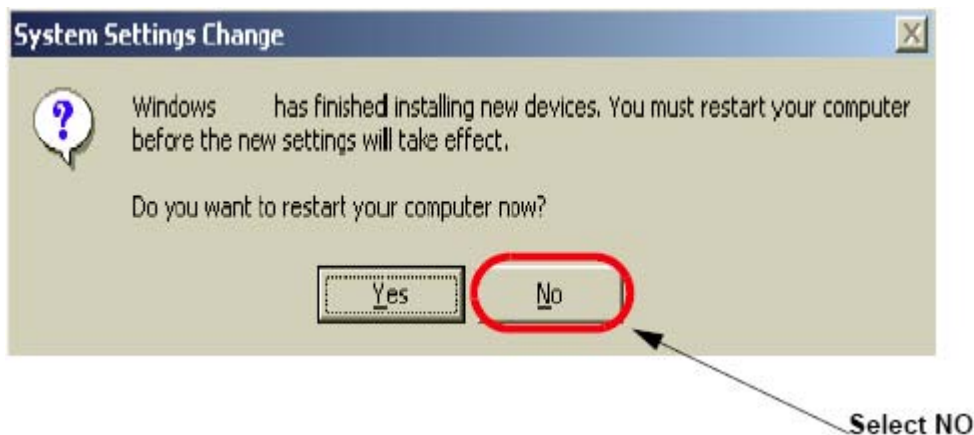

Figure 8-113 Windows Restart Screen
8.) Wait till you get a windows reboot message. This may take upto 3 minutes. On this message, Click on **NO** as shown in the Figure 8-113 below.